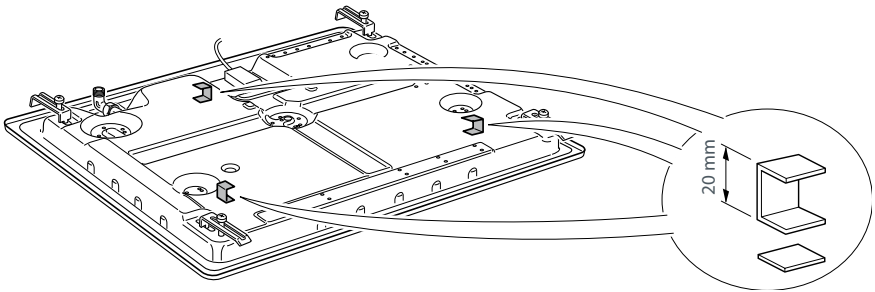

Fig. 3
- A minimum clearance of 20 mm has to be kept between the bottom of the cooking hob and the top of an appliance or a shelf. To ensure this clearance mount the spacers, supplied with the appliance, as shown in the figure 3.